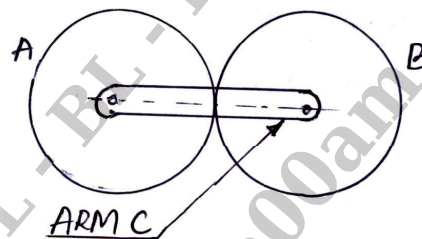

Fig.Q6(b)
- b. In an epicyclic gear train, an arm carries two gears A and B having 36 and 45 teeth respectively. If the arm of the gear train rotates at 150 rpm in the anticlockwise direction about the centre of the gear A which is fixed, determine the speed of the gear B. If the gear A instead of using fixed, makes 300 rpm in the clockwise direction, what will be the speed of gear B. Arrangement is shown in Fig.Q6(b). (12 Marks)